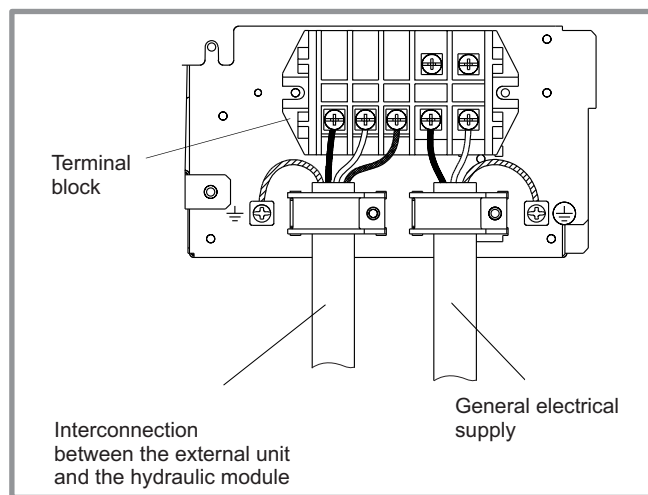

figure 26 - Connections to outside unit's terminal block
- Make the connections in accordance with the diagram figure 26.